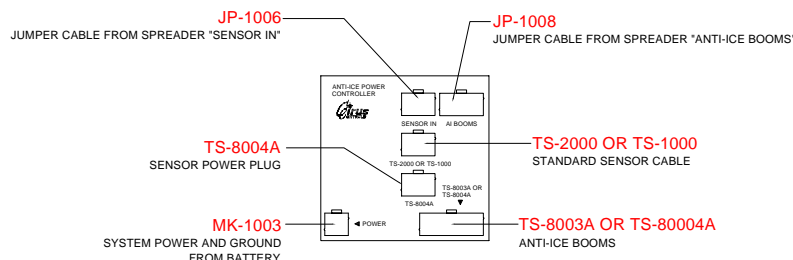

Figure 1.0
- 2.) Connect the Power (MK-1003), into the 4-pin Power socket. Refer to Figure 1.0.